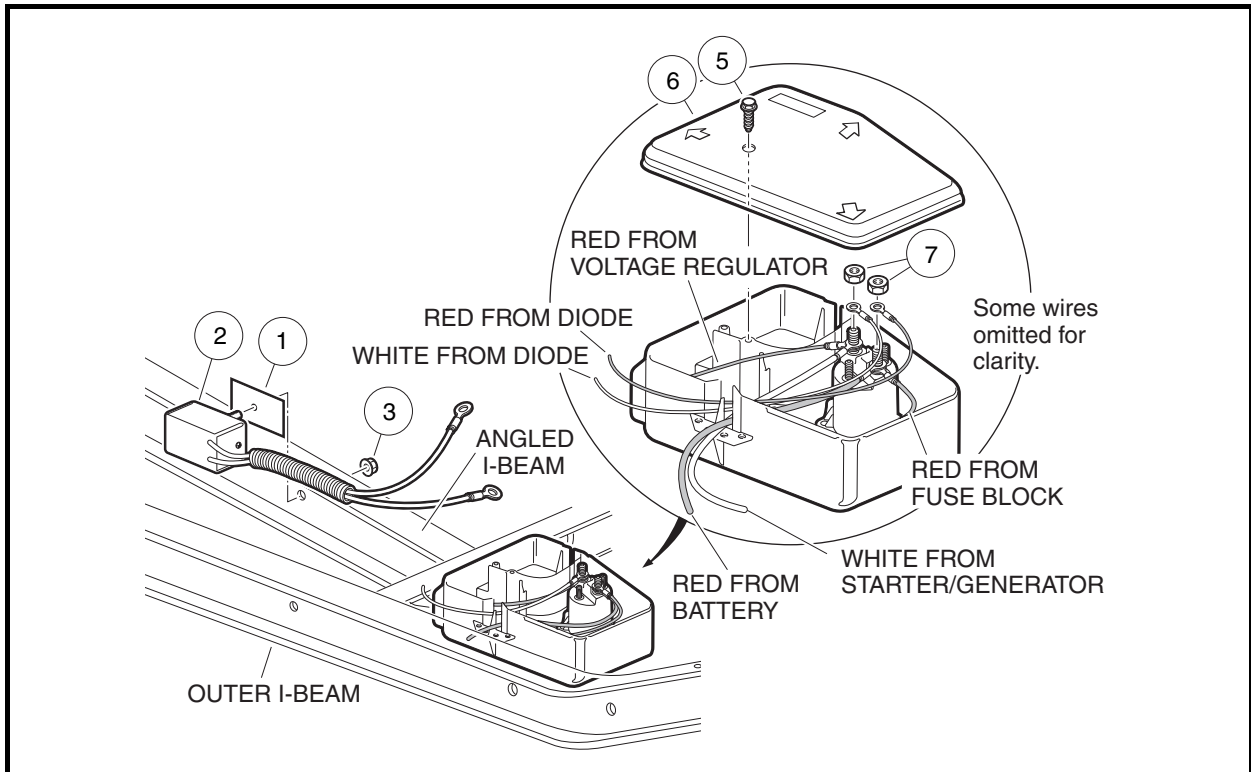

Figure 11-19 Electrical Control Box and Diode Orientation
- 3.2. Remove the cover retaining screw (5) and electrical component box cover (6) (**Figure 11-19, Page 11-21**).